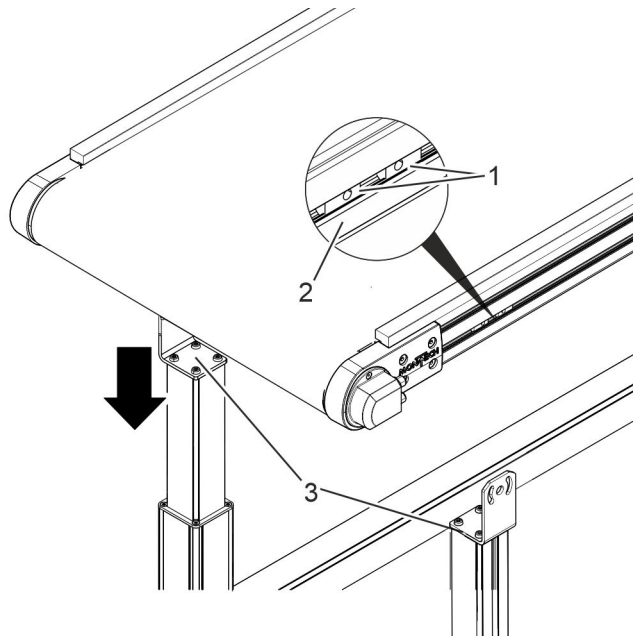

Fig. 20: Swiveling in the slot nut
Swivel two slot nuts (Fig. 20/1) per holder (Fig. 20/3) into the lateral profile (Fig. 20/2) of the conveyor.
2. ➤ Place the conveyor on the holders (Fig. 20/3).